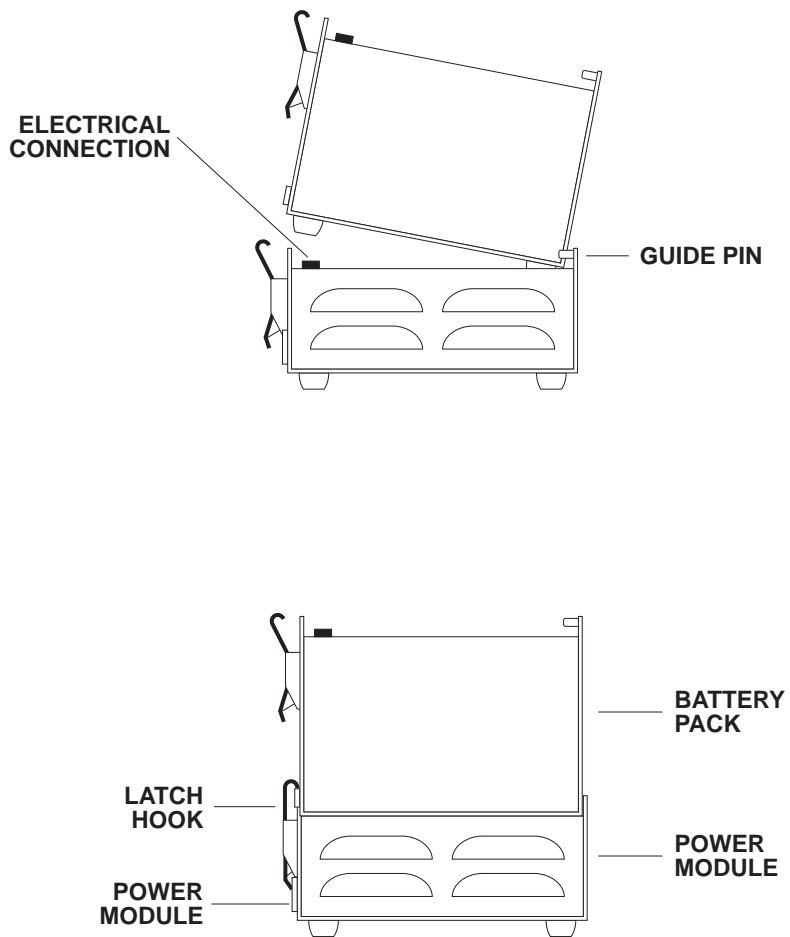

Figure 2.2
- 1) Connect the Battery Pack to the Power Module (refer to Figure 2.2). Multiple Battery Packs may be connected to the Power Module (refer to Figure 2.3).